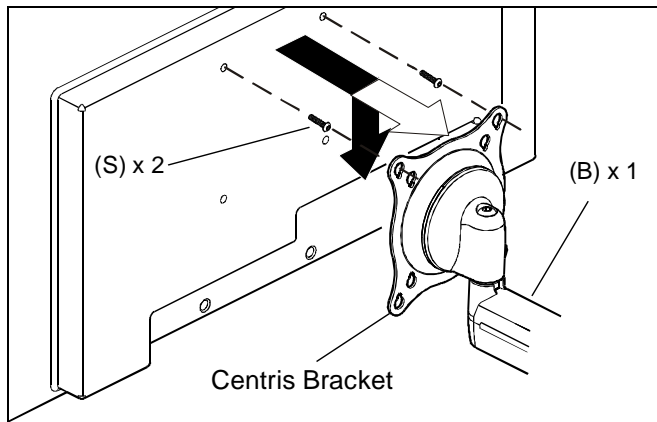

Figure 50
2. Using Phillips screwdriver, carefully install two M4 x 12 Phillips pan machine screws (S) into the *upper* mounting holes on the display. Thread screws completely into display, then back out 3 complete turns. (See Figure 50)
3. Pick up and align display so that screws (S) (installed on the back of the display in the previous step) fit into the mounting holes on the Centris bracket; rotate the bracket as required (See Figure 50). Lower the display into place.